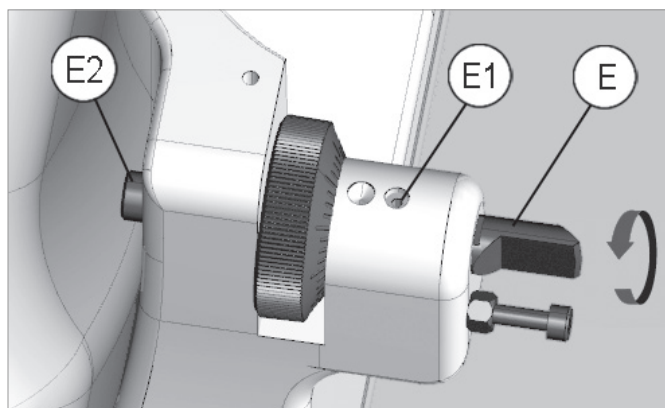

Fig. 32
- 1) Loosen the screw (E2) (Fig. 32).
- 3) Hold screw (E2) still, unscrew the tracer point (E) anticlockwise and remove.